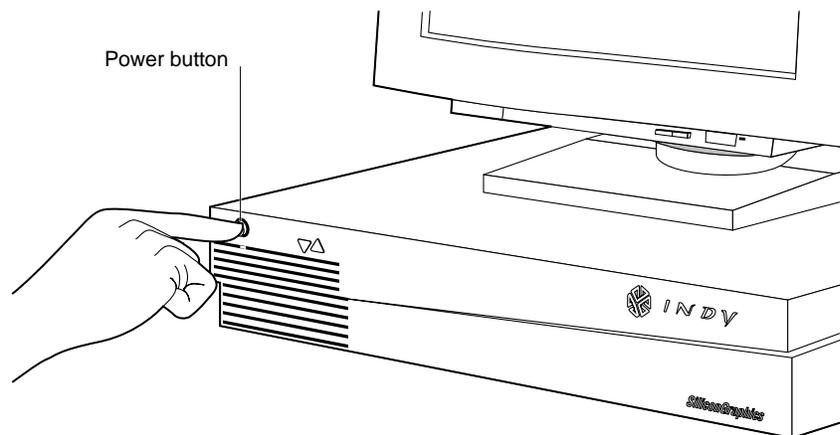

Figure 1-3 Turning Off the Indy Workstation
5. Press and release the power button on the front of the workstation, as shown in Figure 1-3, to power off the system.